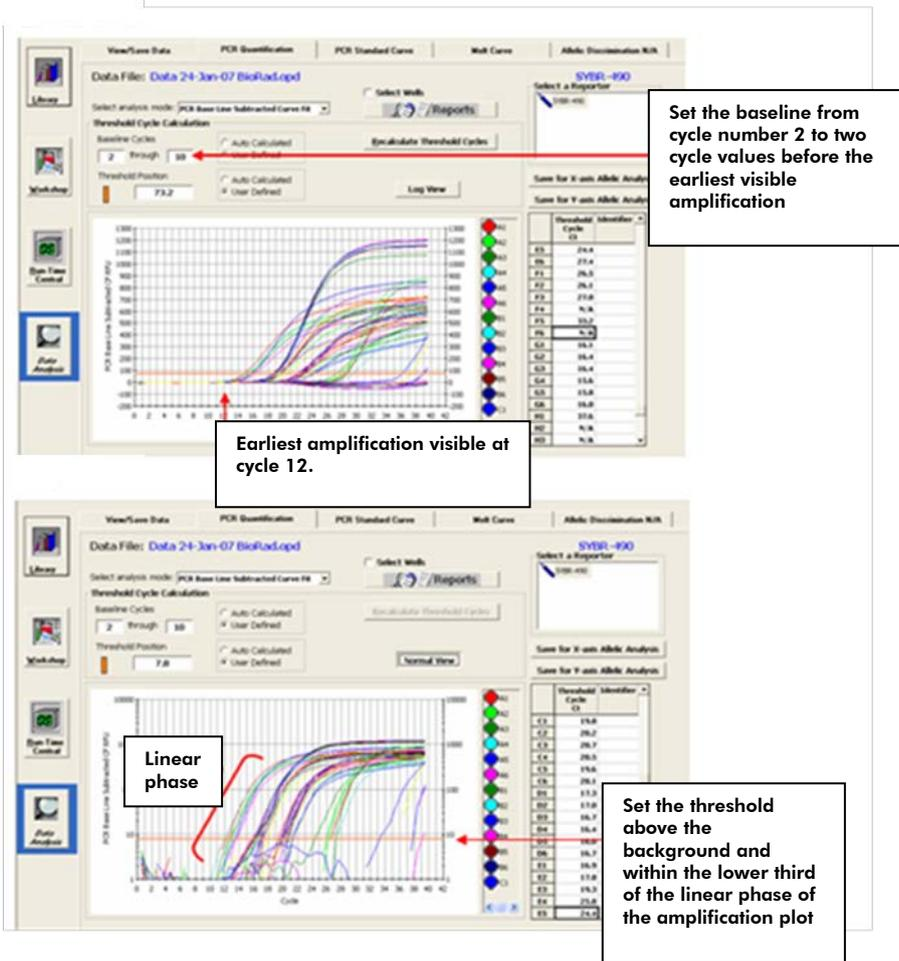

Figure 5. Setting the baseline and threshold values.
3. Follow the procedures below to calculate the threshold cycle ( $C_T$ ) for each well (see Figure 5):